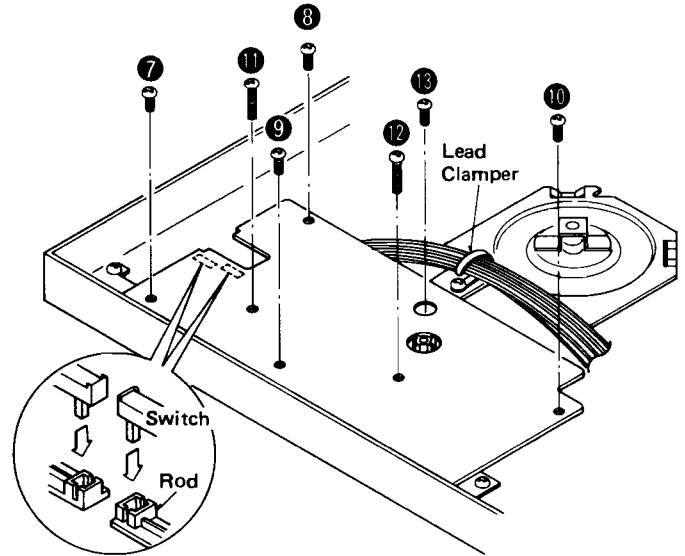

Fig. 6
2. Remove the 7 setscrews (Fig. 6: ⑦ ~ ⑬) of the operation circuit P.C.B. and lead wired from the lead clamber.
**Note:** (1) This printed circuit board is grounded to the stator frame by screw ⑬. When checking for conduction removing the screw ⑬, connect the ground terminal of the printed circuit board to the stator frame.